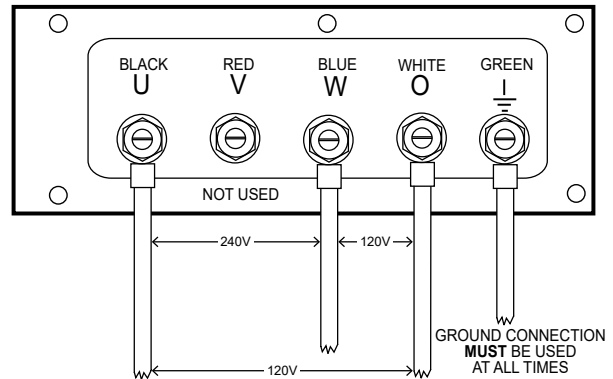

**Figure 21. UVWO Terminal Lugs
2. Connect the load wires to the **UVWO terminal lugs** as shown in Figure 21.